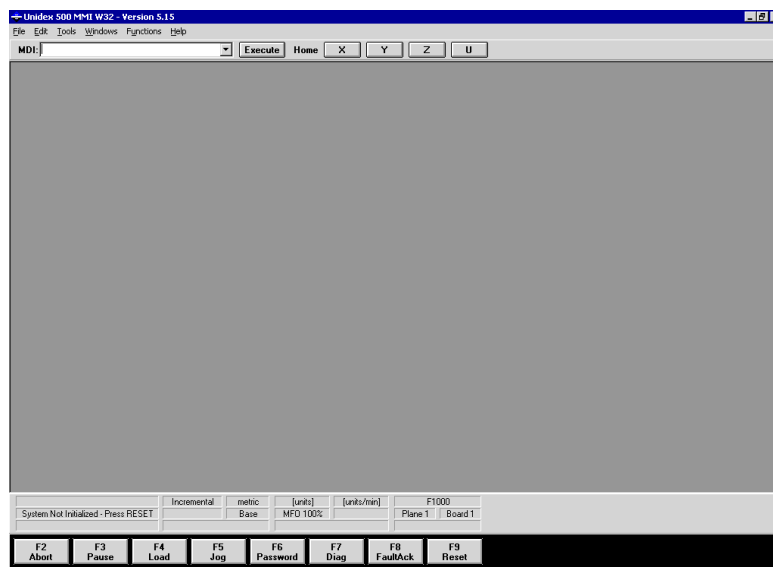

Figure 8-31 Menu of the initial U500 MMI/Toolkit screen.
Figure 8-31 illustrates the main U500 MMI/Toolkit screen. Reference to this figure is made throughout this manual.
Verify that the correct MMI version, project file, parameter file, firmware file and current directory agrees with the U500 MMI “Help – About” screen shown in Figure 8-32. To access this screen, click the “Help” button of the main U500 MMI/Toolkit screen, Figure 8-31, followed by clicking the “About” button of the pull-down menu.
1. Select “Project” from the “Edit” menu of the main U500 MMI/Toolkit screen, Figure 8-31.